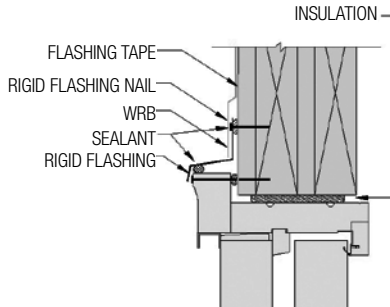

FIG. 17: HEAD JAMB
- A) Apply sealant: Apply a horizontal bead of sealant between the top edge of the rigid metal flashing and flashing and the top of the brickmould. (Fig. 17)
- B) Apply the rigid metal flashing. The flashing should extend approximately 1/8" past the edge of the brickmould on each side. (Fig. 18) Nail the flashing to the rough opening using at least a 1" roofing nail every 8"-10" approximately 1/2" below the top edge of the rigid flashing. (Fig. 17) Ensure that the nail is compatible with the rigid flashing material to prevent corrosion.
- C) Overlap the WRB over the rigid metal flashing. Trim the excess WRB at the rigid flashing bend that is directly below the rigid flashing nail. (Fig. 17 & 18)
trim to the unit until the foam has cured to allow the excess to escape. (Fig. 17 & 19)